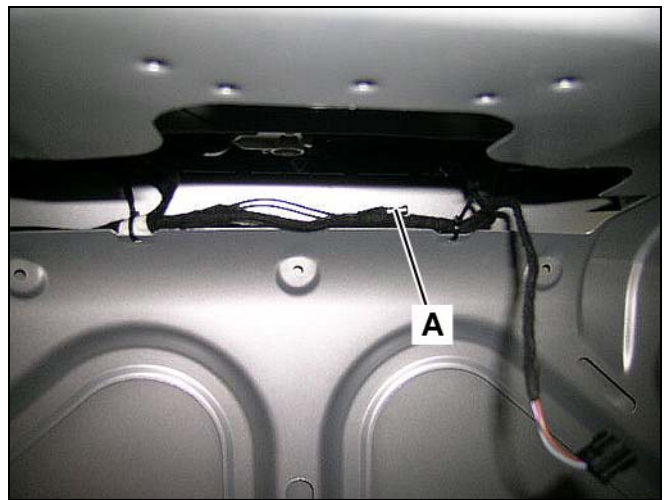

Figure 3
1. Find the preinstalled, foam-covered antenna leads (A, Figure 3) at the top of the trunk lid underside.
7. Find the preinstalled, foam-covered antenna leads (A, Figure 3) at the top of the trunk lid underside.